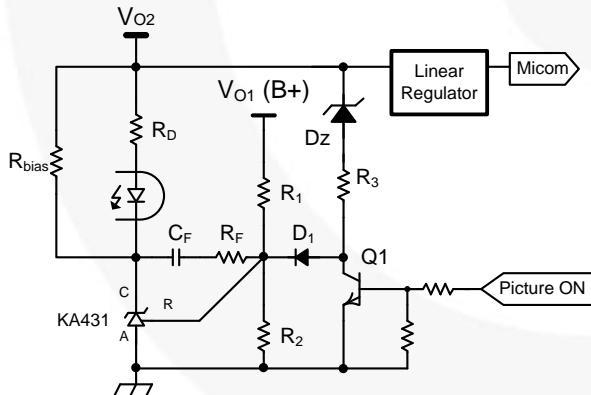

Figure 36. Typical Feedback Circuit to Drop Output Voltage in Standby Mode
6. Burst Operation: To minimize the power consumption in the standby mode, the FSCQ series employs burst operation. Once FSCQ series enters burst mode, FSCQ series allows all output voltages and effective switching frequency to be reduced. Figure 36 shows the typical feedback circuit for C-TV applications. In normal operation, the picture on signal is applied and the transistor Q₁ is turned on, which decouples R₃, D_z and D₁ from the feedback network. Therefore, only V_{O1} is regulated by the feedback circuit in normal operation and determined by R₁ and R₂ as: